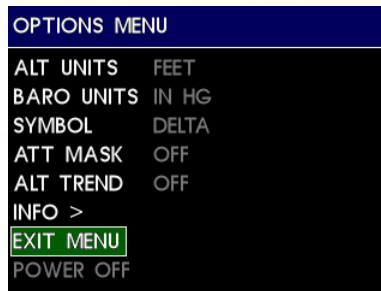

Figure 4.22
The EXIT MENU action allows the user to manually exit the Options Menu and return to the active attitude display. There are no selectable options. After confirming any setting by selecting it, that setting will become immediately active and be saved in memory. This will occur regardless of whether the EXIT MENU command is selected or should it time out after ten (10) seconds of inactivity (and automatically revert to the attitude display). (Figure 4.22)